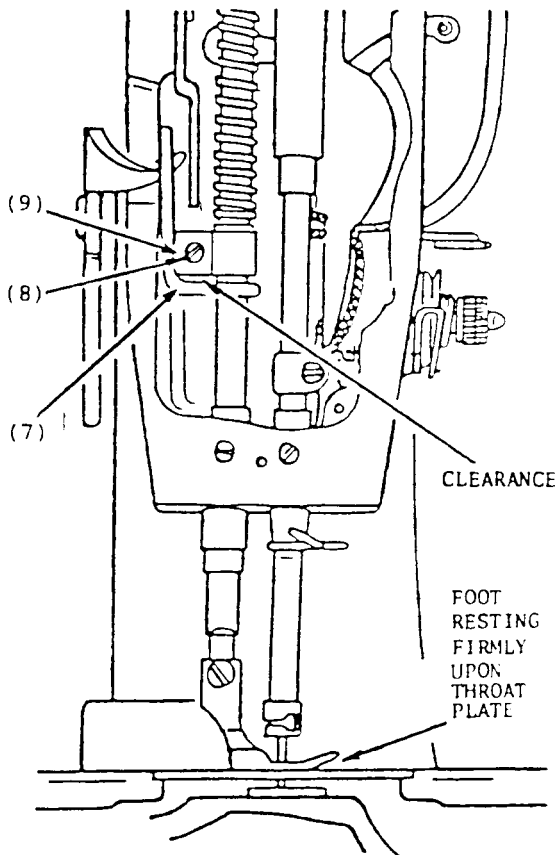

Fig. 5
1. When presser foot rests firmly upon throat plate (with feed dog below throat plate) there should still be some clearance between guide bracket (9), Fig. 5 and lifting lever link (7), as shown in Fig. 5.
Loosen clamping screw (8), Fig. 5. Raise or lower guide bracket (9), as required. Securely tighten screw (8).